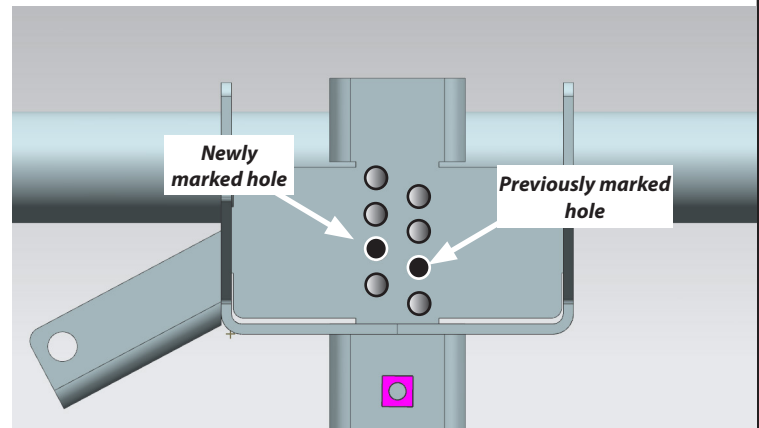

Figure 24
- e. Once the tire is removed, once again push against the carrier stinger towards the tire carrier tubes and mark a new hole **just past** (towards the vehicle) then the previously marked hole. See figure 24.